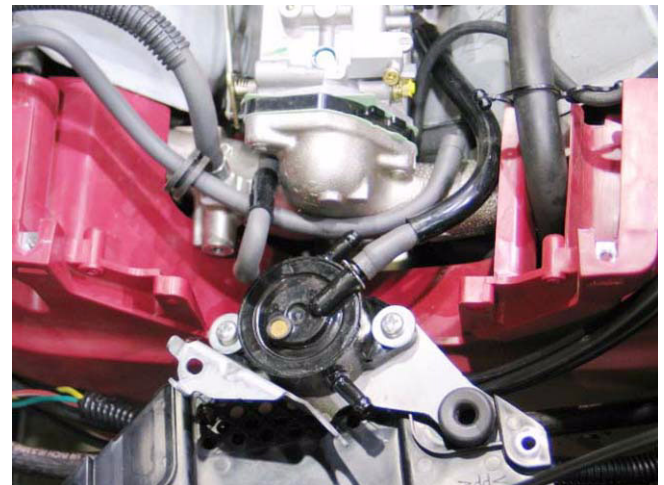

Figure 15.10
- 15.10. Note the position of the hoses that connect to the fuel pump. Disconnect the hoses, and remove the fuel pump. See Figure 15.10.